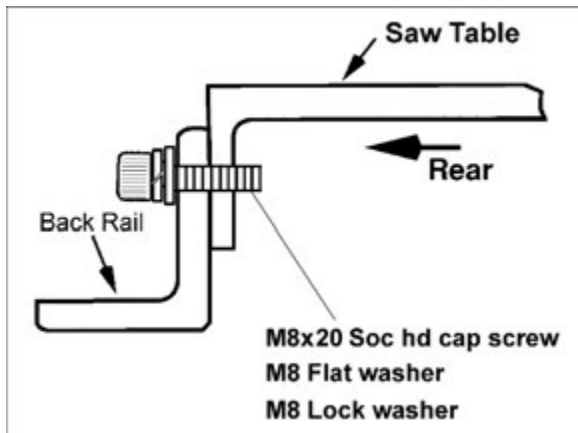

Figure 6-5
3. Secure back rail (A, Figure 6-5) to pre-tapped holes in saw table (B) in two places with M8x20 socket hd cap screws and washers. *Finger tighten only.*